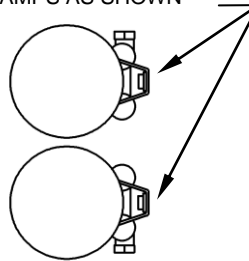

FIGURE 3
7. Remove the muffler assembly from the box and slide two supplied 27-61MSC clamps onto the back muffler tubes. Refer to Figure 3 for alignment.
12. To install the front heatshield, first slide the rear portion of the heatshield over the muffler, continue to slowly slide it forward pushing the front of the shield gently into place between the frame and motor (Hint: Spread the hose clamps apart slightly to make it easier to slide them over the muffler assembly and headpipes). Make sure the muffler clamps don't interfere with the heatshields and are aligned as shown in Figure 3. Snug the heatshield clamps but **DO NOT TIGHTEN**.